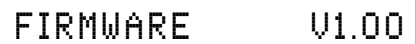

Figure 2
2. Press the SETUP Push-button repeatedly until the Front Panel Information Display indicates "Firmware V1.00" or higher. Refer to figure 2.
1. Repeatedly press the SETUP Push-button until "FIRMWARE V__._" is indicated on the Front Panel Information Display. Refer to figure 2.